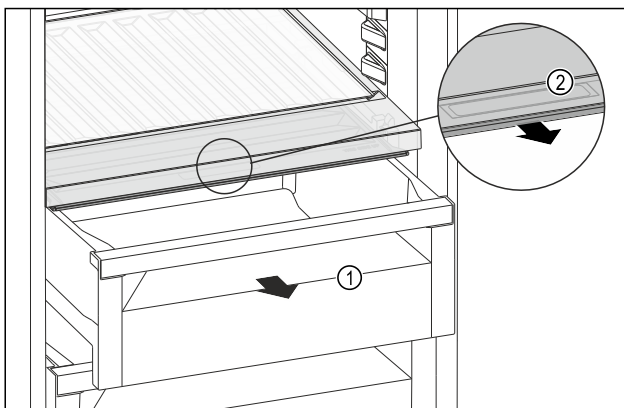

Fig. 117
- Pull out the drawer Fig. 117 (1).
- Grasp the recessed grip Fig. 117 (2) on the compartment lid and pull the compartment lid forwards at the same time.